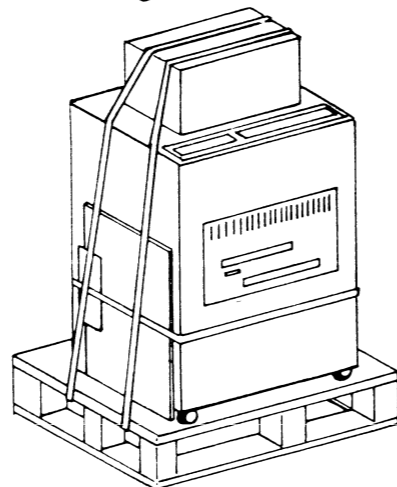

FIGURE 4
3. Remove the straps securing the accessories box to the top of the printer. Remove the accessories box (See Figure 4).